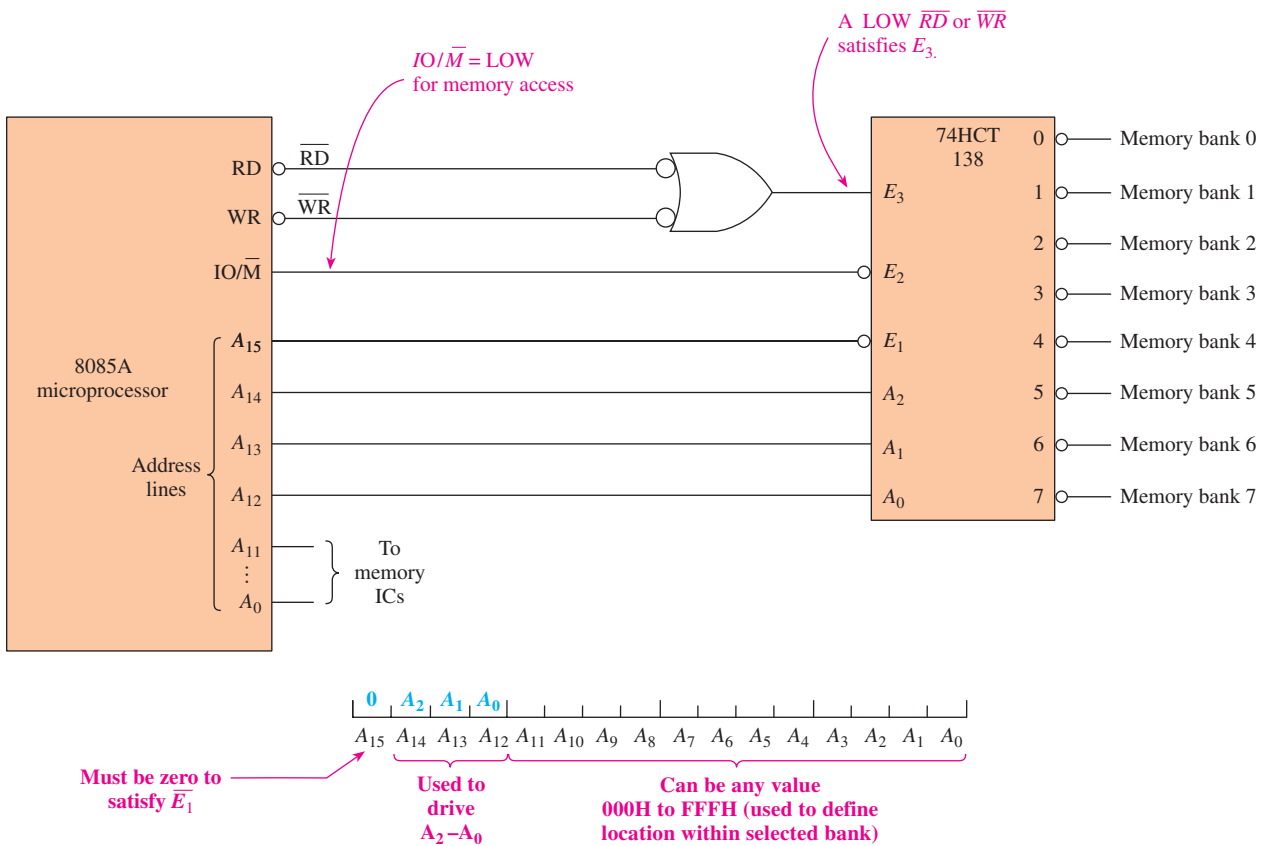

Figure 58 Using the 74HCT138 for a memory address decoder in an 8085A microprocessor system.
The 74138 and its CMOS version, the 74HCT138, are popular choices for decoding the address lines in **microprocessor** circuits. A typical 8-bit microprocessor such as the Intel 8085A or the Motorola 6809 has 16 address lines (A_0 – A_{15}) for designating unique **addresses** (locations) for all the peripheral devices and memory connected to it. When a microprocessor-based system has a large amount of memory connected to it, a designer often chooses to set the memory up in groups, called *memory banks*. For example, Figure 58 shows a decoding scheme that can be used to select one of eight separate memory banks within a microprocessor-based system. The high-order bits of the address (A_{12} – A_{15}) are output by the microprocessor to designate which memory bank is to be accessed. In this design, A_{15} must be LOW for the decoder IC to be enabled. The three other high-order bits, A_{12} – A_{14} , are then used to select the designated memory bank.
What is the range of addresses that can be specified by the 8085A in Figure 58 to access memory within bank 2?
Solution: Referring to the chart in Figure 58, address bit A_{13} must be HIGH to make A_1 in the decoder HIGH to select bank 2. The other address bits, A_0 – A_{11} , are not used by the decoder IC and can be any value. Therefore, any address within the range of 2000H through 2FFFH will select memory bank 2.
19. In the address decoding circuit of Figure 58, the A_{15} address bit must be HIGH to access memory bank 7. True or false?
20. What IC would be used to implement the inverted-input OR gate in Figure 58: a 7400, a 7402, a 7408, or a 7432?
21. To read from memory bank 0 in Figure 58, the microprocessor will output _____, _____, and _____ on the \overline{RD} , \overline{WR} , and $\overline{IO/\overline{M}}$ lines.